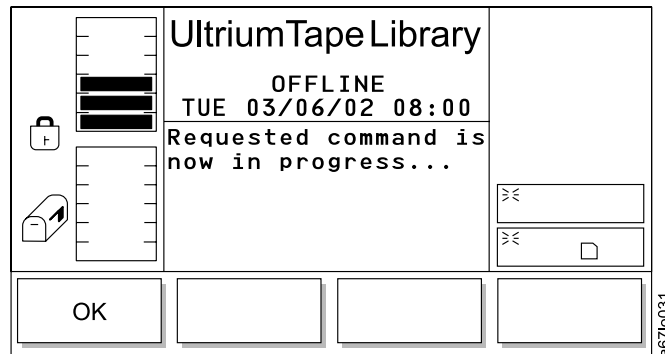

Figure 127. Import Dialog
- If **Import** is selected, the Import Dialog displays (see Figure 127 on page 115).